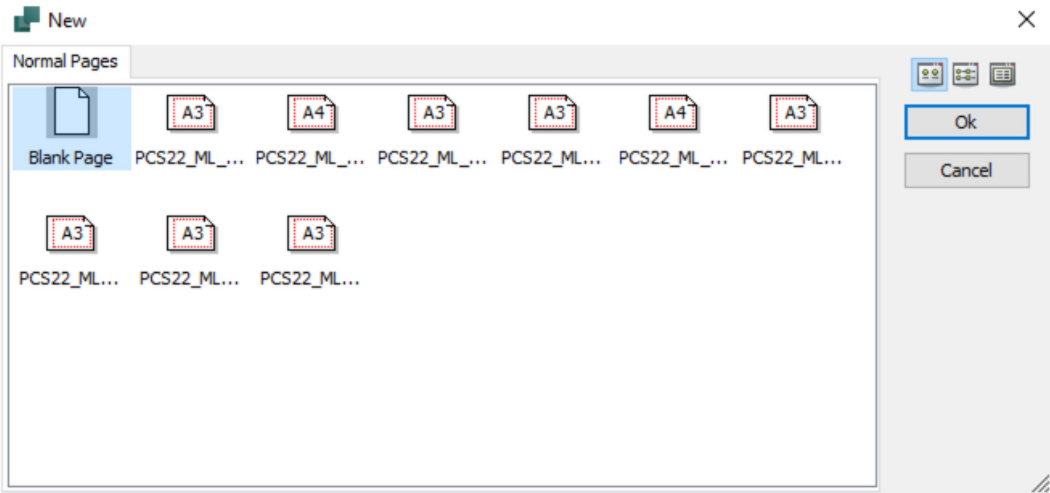

Figure 6.41 – New dialogue box
9. Select **Blank Page** and click **Ok** in the **New** dialogue box (Figure 6.41):